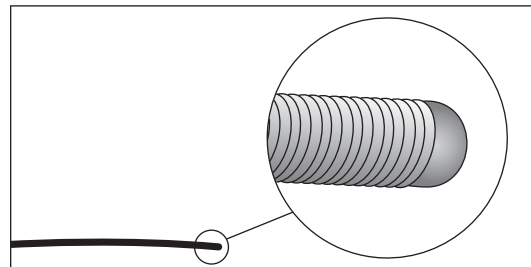

Figure 25
1. Examine tip of placement wire after removal to ensure wire has not been altered (see Figure 25).